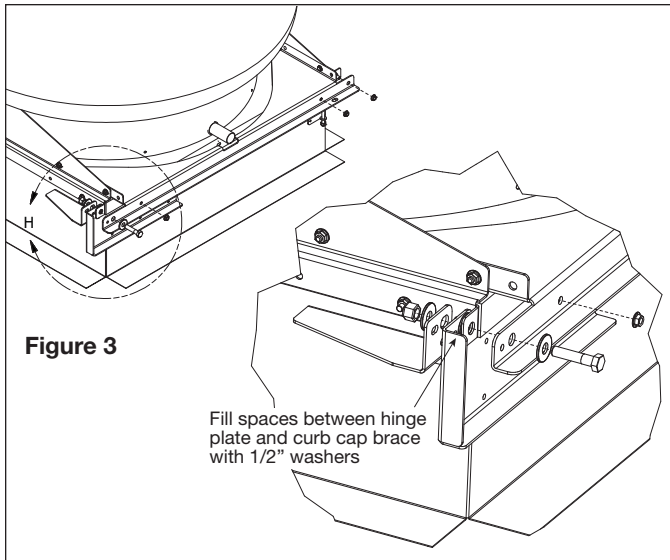

Figure 3
8. Install an additional washer on the inside of the lower hinge bracket. See **Figure 3, Detail H**. When the 1/2" bolt appears to easily move in and out of its hole, secure the hinge plate to the curb using six self-drilling screws in the six 1/4" holes on the plate. Repeat this step for the other hinged side.